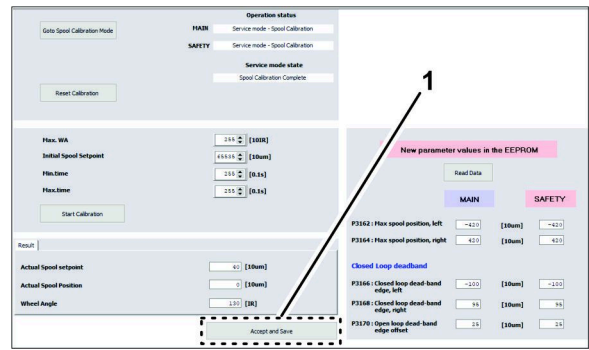

Figure 50
5. At the bottom of the spool calibration screen, click the ACCEPT AND SAVE icon (Figure 50).